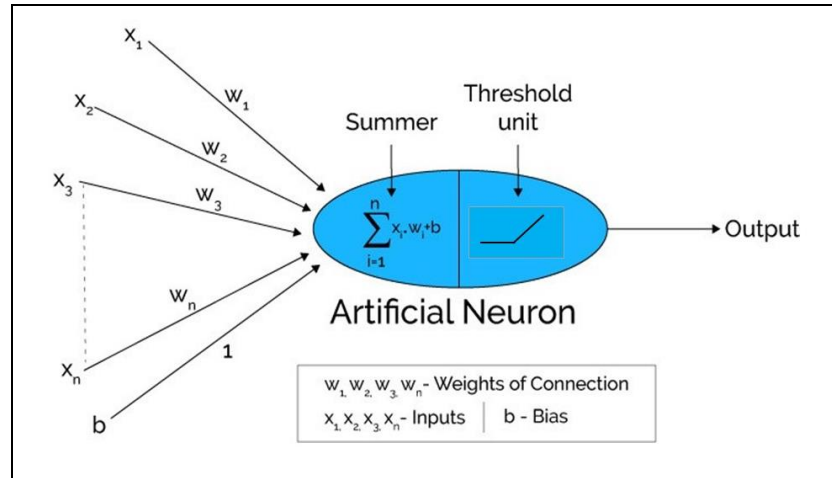
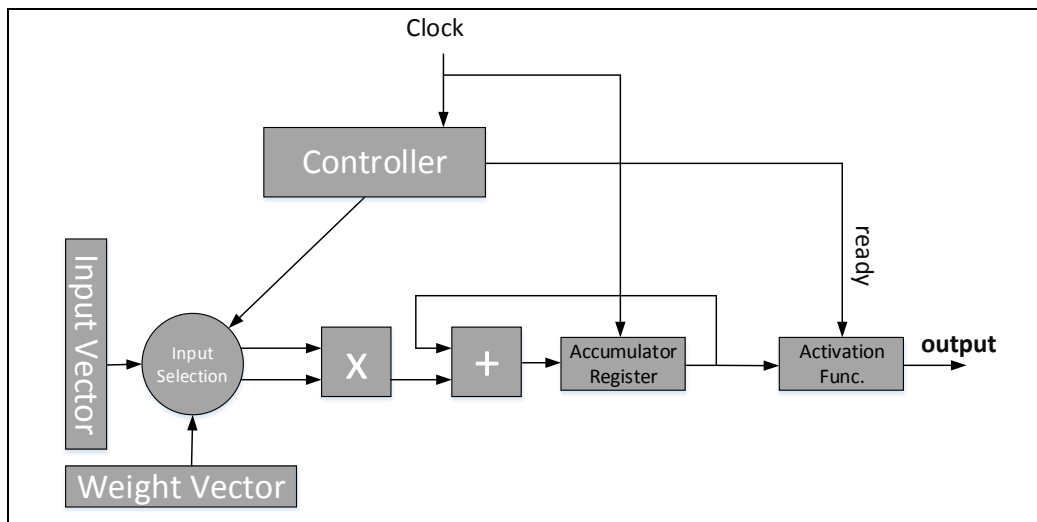

Fig2. A basic artificial neuron model
Fig3. A structural model of an artificial neuron
In this assignment, you should implement a single neuron, depicted in Figure 2. Each neuron in MLP computes the dot product of the inputs and weight vectors and passes the result to an activation function to produce the final output. The weight vector of each neuron is determined during an offline or online training phase. Figure 2 illustrates the required arithmetic operations of a basic neuron, but realistic implementations usually use a **MAC** (multiply-and-accumulate) unit for each neuron to carry out the multiplication/addition operations in serial. Figure 3 shows the implementation of a neuron by applying a MAC module.
As illustrated in Figure 3, the controller reads each input data and its corresponding weight and passes them to the MAC unit in several iterations. Once the MAC calculation is completed, a ready signal is passed to the activation function unit to generate the neuron output.
- The number of neuron inputs (and so, the length of the two vectors in Figure 3) must be parameterized. Set it to some integer value when you are testing the design.